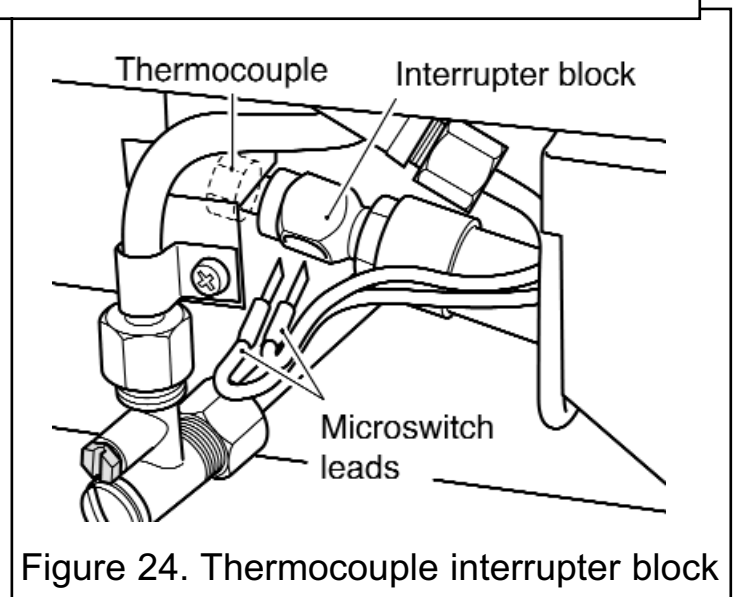

Figure 24. Thermocouple interrupter block
2. Loosen the thermocouple nut to free the microswitch leads and pull the leads clear of the thermocouple interrupter block (See figure 24).